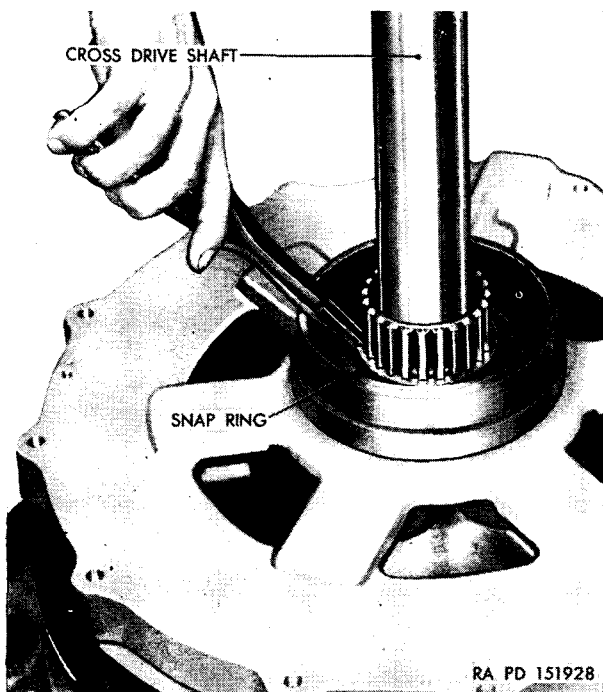

Figure 189. Removing or installing clutch-housing snap ring.
- (1) Using snap ring pliers, remove the snap ring from the high-range clutch housing (fig. 189). Lift off the spacer. Remove the thrust washer. Remove the two bolts remaining in the package unit, using a ⅝-inch wrench.